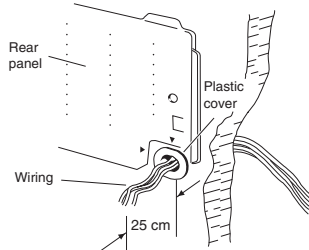

Fig. 3-50
- (3) Insert the inter-unit wiring into the through-the-wall PVC pipe. Lead the power wiring into the room allowing approx. 25 cm to extend from the wall face. (Fig. 3-50)